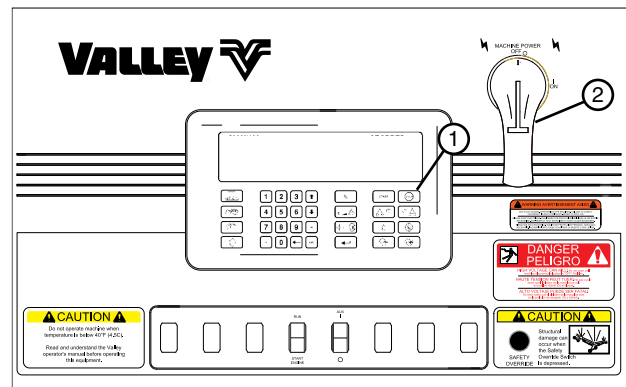

Figure 35-2 AutoPilot Control Panel Shown
1. Press the STOP key. See Figure 35-2.
2. Turn the main disconnect switch to the OFF position. See Figure 35-2.